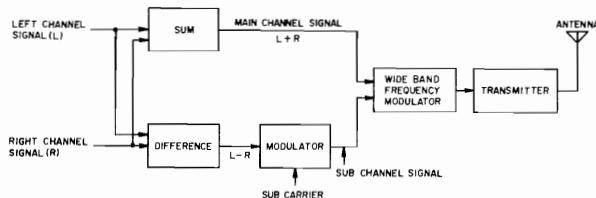

Fig. 10 FM Broadcasting System Diagram
As shown in Fig. 10, for FM broadcasts, the sum signal ($L+R$) consists of left signal (L) and right signal (R) and the audio frequency band of this signal in its original form is frequency modulated.